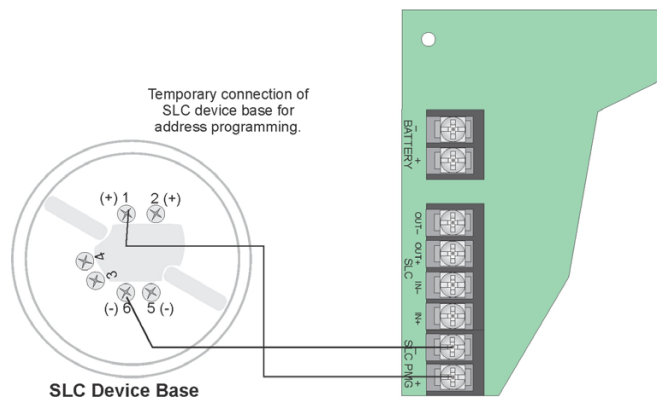

Figure 7.6 Temporary Connection of Detector Base to Panel for Addressing
1. Connect a detector base temporarily to the programming terminals as shown in Figure 7.6. (You can use the same base for each detector.)